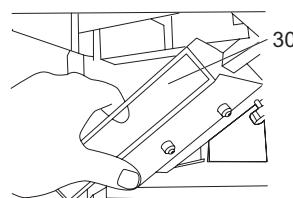

Fig. 18
- > Hold the dust extraction port (30) assembly at approximately 45° and slide it into place onto the thicknesser bed. (Fig. 18)